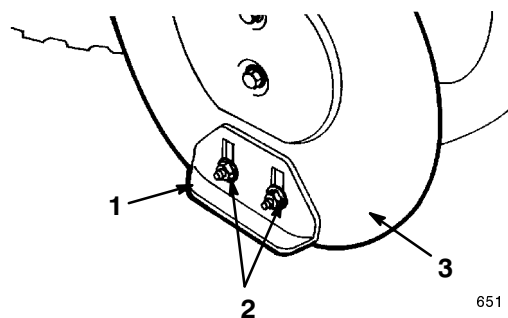

Figure 31
4. Loosen the four flange nuts that secure both skids to the auger side plates (Fig. 31) until the skids slide up and down easily.
9. Tighten the four flange nuts that secure both skids to the auger side plates (Fig. 31).